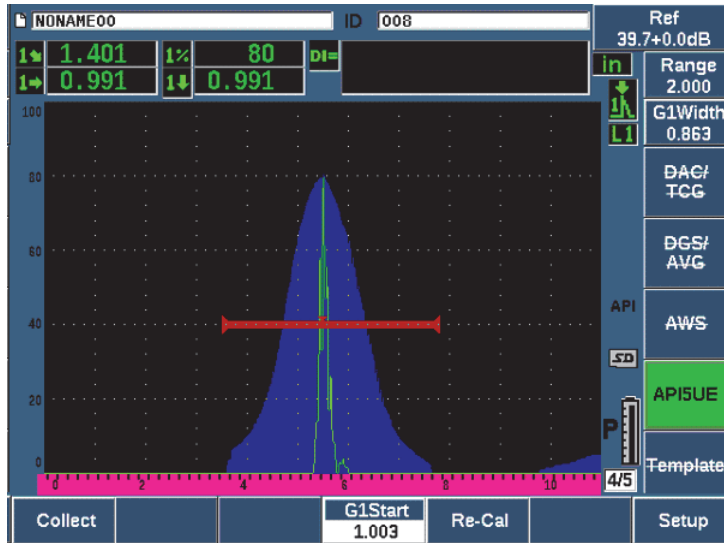

Figure 11-23 Calibration data in collect mode
The letter **P** appears to the right of the live A-Scan display (see Figure 11-23 on page 271).
5. Press **Collect** (P1 key) to collect the  $A_{max}$ ,  $T_1$ , and  $T_2$  data from the envelope (see Figure 11-23 on page 271).